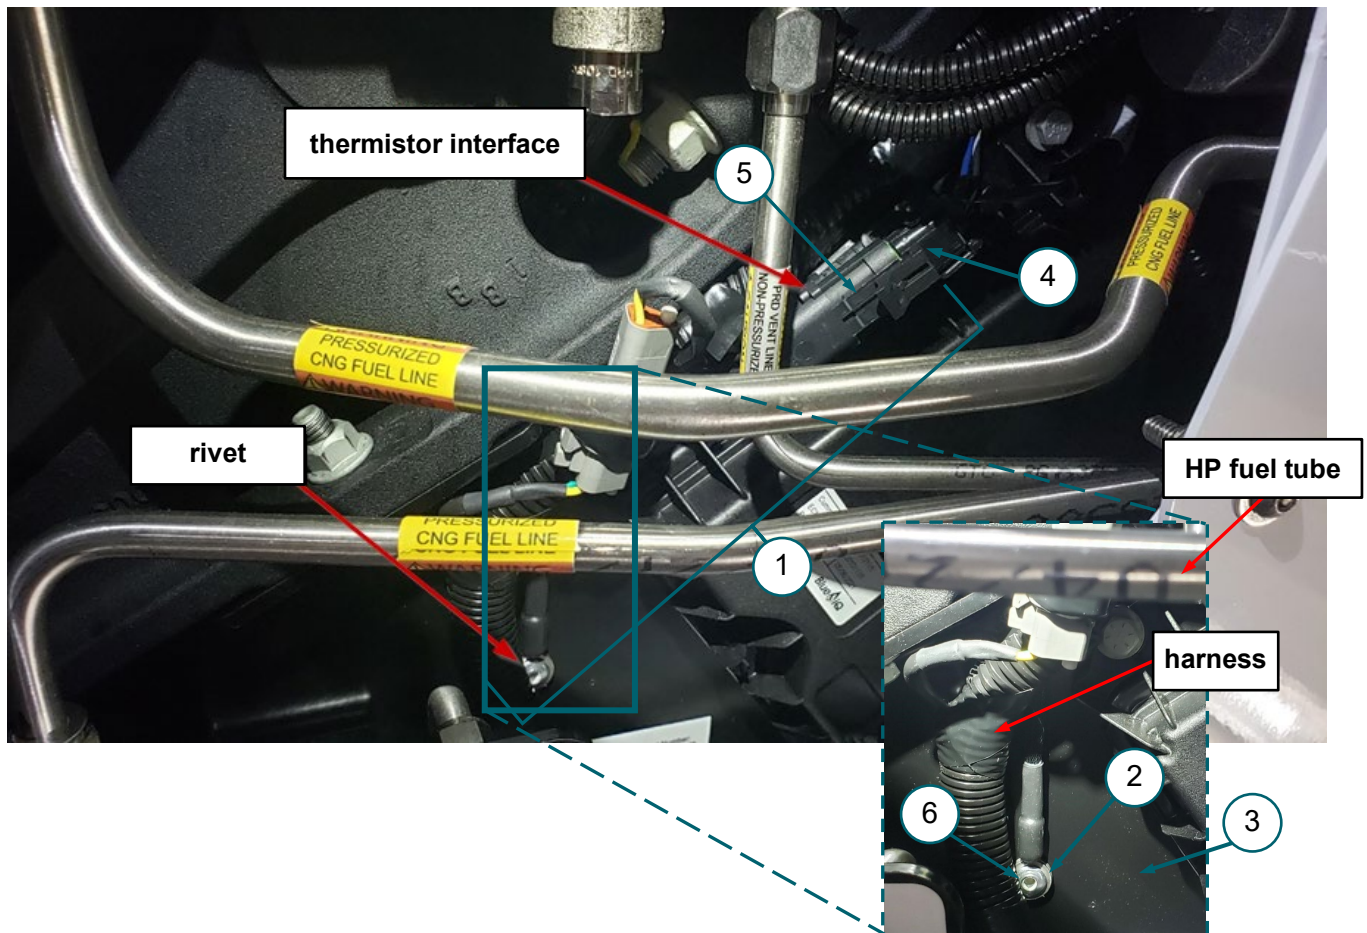

FIGURE 2-21. Thermistor mounting detail, Gen 5 SM systems. **NOTE:** Thermistor 1 shown; thermistor 2 similar.
1. Drill out (6) rivet securing (1) thermistor assembly (2) loop to (3) structure. **FIGURE 2-21**
2. Unplug (1) thermistor assembly (5) connector from Blue iQ harness at thermistor interface. **FIGURE 2-21**
3. Use a (6) rivet* to mount (1) thermistor assembly to (3) structure using (2) loop. **FIGURE 2-21**
4. Connect (1) thermistor assembly (5) connector to (4) Blue iQ chassis harness connector at thermistor interface.